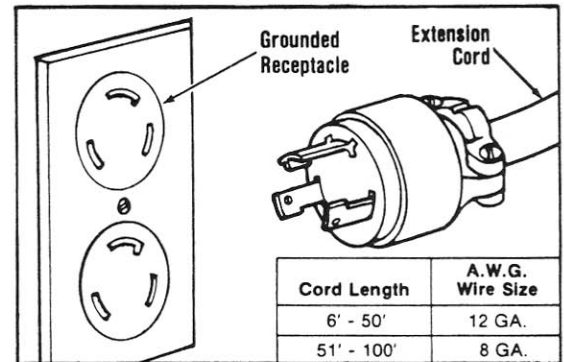

Figure 1. Grounding Machine
2. **Ground Machine (Fig. 1).** This Drilling Machine should be grounded while in use to protect the operator from electric shock. The Machine is equipped with a three-conductor cord and three-prong grounding type plug to fit the proper grounding type receptacle. The green (or green and yellow) conductor in the cord is the grounding wire. Never connect the green (or green and yellow) wire to a live terminal.